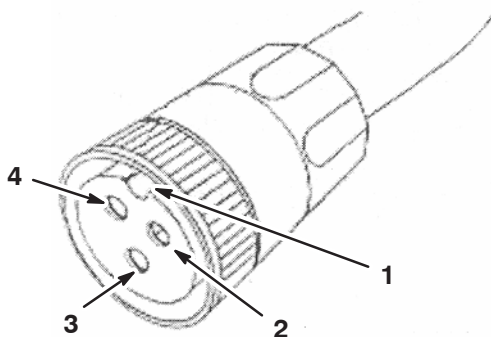

Figure 7
2. Hold the cable so that the keyway is in the 12 o'clock position (Fig. 7).